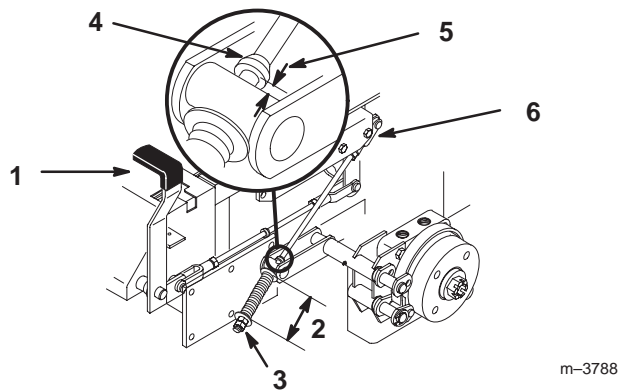

Figure 58
2. Measure the length of the spring. Measurement should be 2-3/4 inch (70 mm) between washers (Fig. 58).
3. If adjustment is necessary, loosen the jam nut below the spring and tighten the nut directly below the yoke (Fig. 58). Turn the nut until the correct measurement is obtained. Tighten the two nuts together and repeat on opposite side of unit.
6. Measure the distance between the trunnion roller and the collar on brake rod. Measurement should be 3/16-1/4 inch (5-7 mm) (Fig. 58).
7. If adjustment is necessary, loosen the jam nut directly below the yoke. Turn the bottom rod until the correct measurement is obtained (Fig. 58). Tighten jam nut at yoke